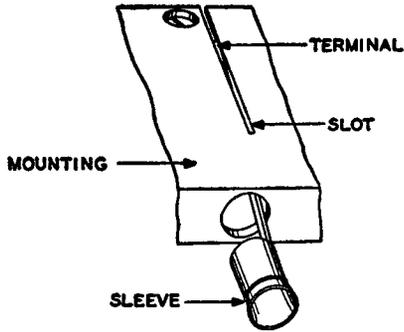

Fig. 6—Method of Inserting Sleeve Into the 49-type Jack
3.13 In the case of the 49-type jack, hold the sleeve so that the terminal is at the right and insert it into the mounting so that the terminal will enter the slot as shown in Fig. 6.